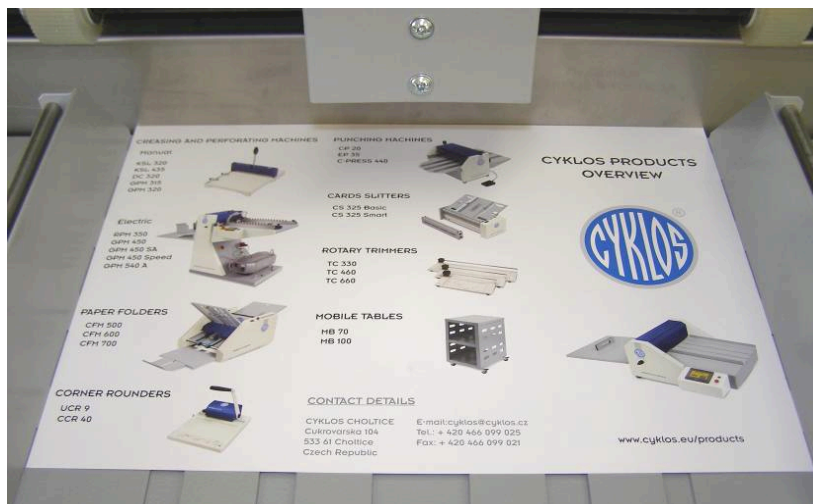

Fig. 9: Correctly prepared table – the sheet has been pushed to the stainless steel plate
Place 2 – 3 sheets to be processed on the feeding table. Push the sheets to the stainless steel plate, so that they are collinear (fig. 9). This ensures the sheets are perpendicular to the tool. Push the side guides (3) towards each other, so that there is a minimum gap between them and the sheets. Caution! This adjustment has a great impact on correct paper feeding into the machine. If the processed paper is not perfectly perpendicular, correct this inaccuracy by skewing the side guides (3) using the angle regulation screw (17). Lock the adjusted position with the locking bolts of the side guides (21). Correct and incorrect procedure is shown in figures 9 and 10.